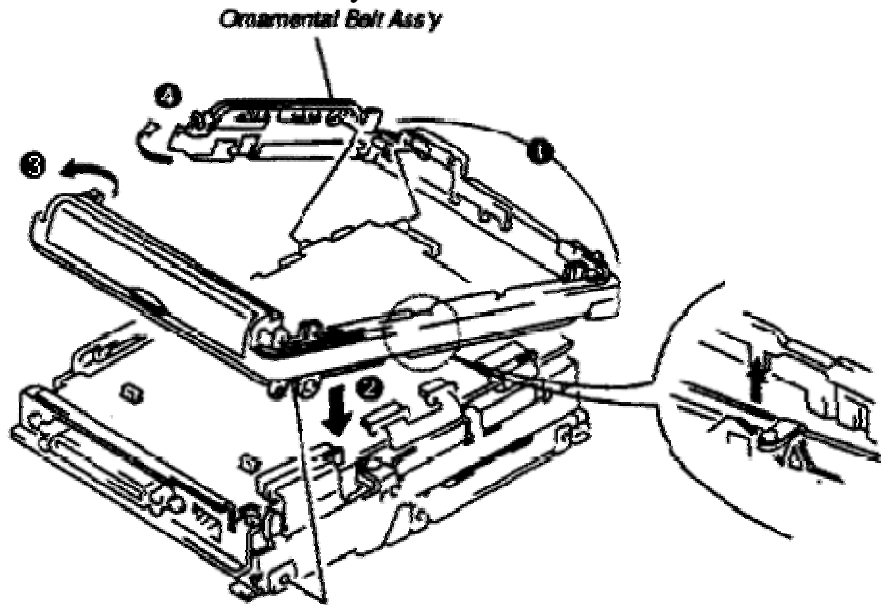

Fig. 4-2
- a. Spread out Ornamental Belt Ass'y and dislocated it from the frame. (Refer to Fig. 4-2)